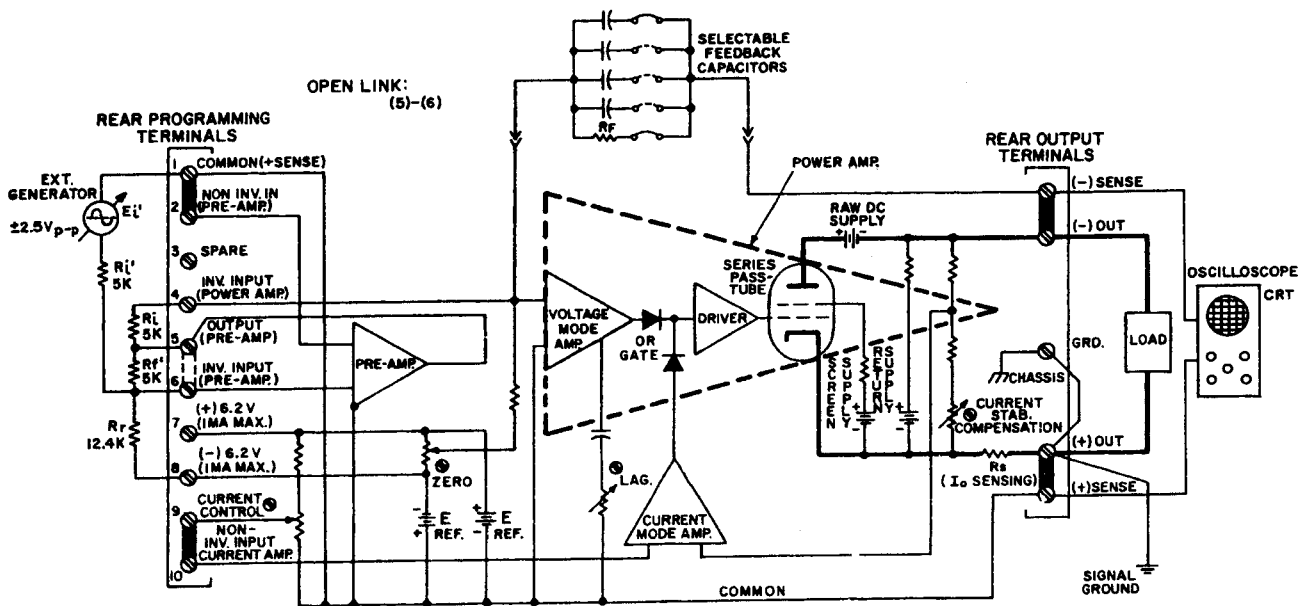

FIG. 3-12 CONNECTIONS FOR AMPLIFYING A BIPOLAR INPUT SIGNAL.
- 1) Connect the generator ( $E_i'$ ), the LOAD and an oscilloscope (CRT) to the OPS as shown in FIG. 3-12. FOR INTERCONNECTION DETAILS AND SAFETY PRECAUTIONS TURN TO THE "WARNING" PARAGRAPH ON PAGE 3-3.